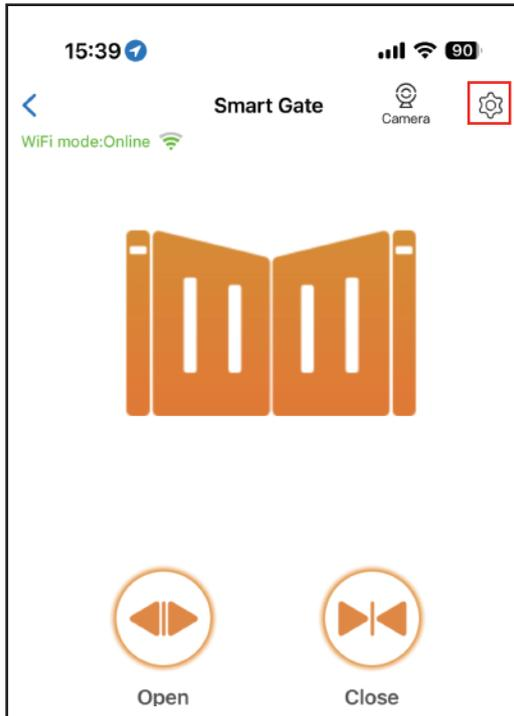

Fig 9
Step 1. Open the APP, select the device. Press the “⚙️” on the top right corner, then select to “Sharing device”, will create a QR code. (Fig 9)